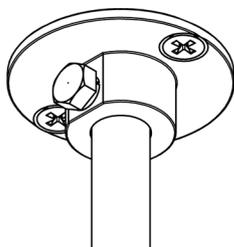

FIG. 6 - INSERT CABLE BASE INTO CEILING
5. PUSH CABLE BASE INTO HOLE IN CEILING (SEE FIG. 6).